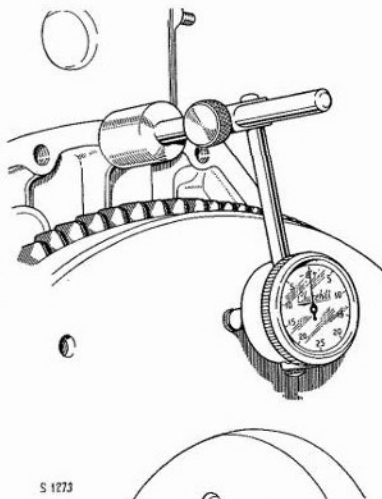

Fig. B.58. Checking the flywheel for "run-out", using a dial gauge
4. Tighten the setbolts in diagonal sequence to a torque wrench reading of 37/43 lb. ft. (5.12/5.95 kg.m.) and check for "run-out" at the outer edge of the flywheel friction face (see Fig. B.58). A total dial gauge reading of .003 in. (.076 mm.) must not be exceeded. If this figure is exceeded, it is recommended in the first